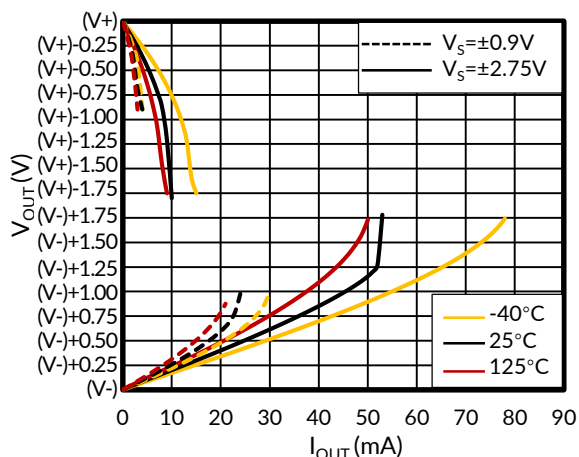

Figure 17. Output Voltage Swing vs Output Current
- (1) Electrical table values apply only for factory testing conditions at the temperature indicated. Factory testing conditions result in very limited self-heating of the device.
- (2) Limits are 100% production tested at 25°C. Limits over the operating temperature range are ensured through correlations using statistical quality control (SQC) method.
- (3) Typical values represent the most likely parametric norm as determined at the time of characterization. Actual typical values may vary over time and will also depend on the application and configuration.
- (4) Total V_{OS}, referred-to-input = (V_{OSI}) + (V_{OSO} / G).
- (5) RTI = Referred-to-input.
- (6) Does not include effects of external resistor R_G.
- (7) See Typical Characteristics curves, Output Voltage Swing vs Output Current (Figure 17).